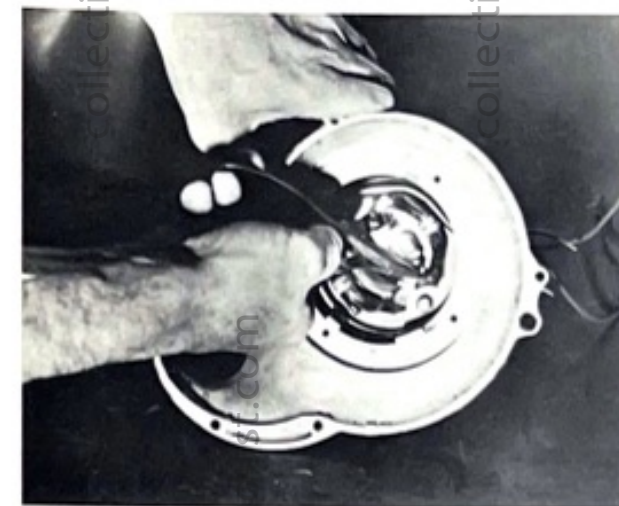

Figure 1-54. Installing field U-clips on brush holders
(4) Position the wire tubing clamp (42) to secure the headlight insulating tube and align with the field mounting hole. Install the nuts on the field mounting screws (43) (not used on models 519 and later); insert the screws through the field and tighten until snug. Where used, turn the nuts down on the screws with a pliers until tight against the field.
(5) On models 516 through 518, use long-nose pliers to position the field U-clips on the brush holders as shown in figure 1-54. Make sure that the leads are positioned so there will be no interference with the armature.